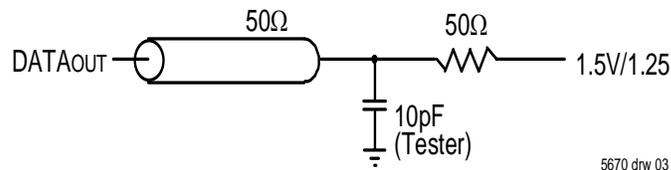

Figure 1. AC Output Test load.
Output Load	Figure 1
1. Transition is measured 0mV from Low or High-impedance voltage with Output Test Load (Figure 1).
7. This parameter is guaranteed by device characterization, but is not production tested. Transition is measured 0mV from steady state with the Output Test Load (Figure 1).
- This parameter is guaranteed by device characterization, but is not production tested. Transition is measured 0mV from steady state with the Output Test Load (Figure 1).